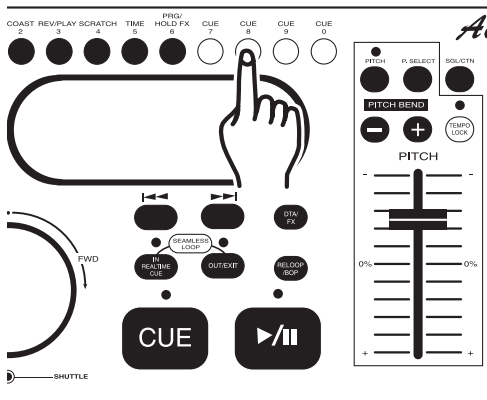

Figure 21
- 2) At this point pressing any one of the four *CUE BUTTONS* (6) will store your cue point into memory (Figure 21), and the yellow Cue Memory LED will shut off.